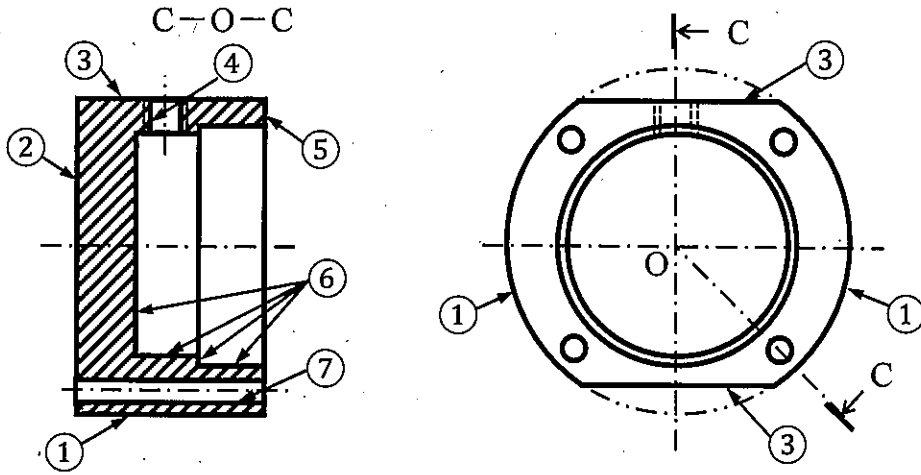

Figure 3-7
(3) Consider manufacturing a cylinder cover as shown in Figure 3-7 with a material JIS S45C (ISO C45). Answer the following questions.